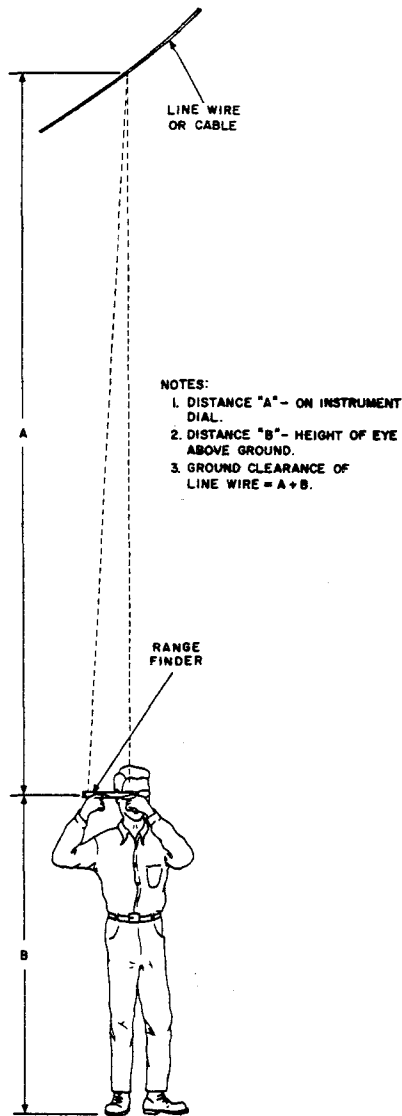

Fig. 3—Measuring Ground Clearance With Range Finder
2.06 When making measurements of overhead wires or cable, stand directly beneath the observed wire or cable and hold the Range Finder at a right angle to the object being measured, as illustrated in Fig. 3. Be sure to add height of eye to value indicated on dial.